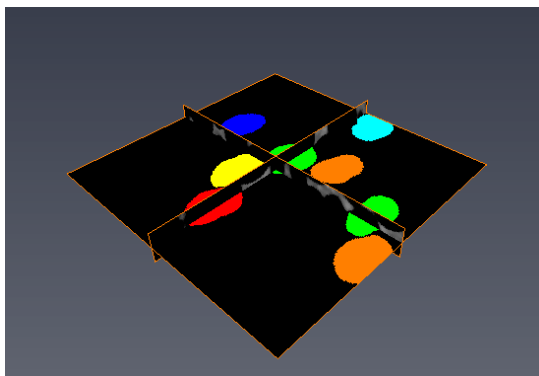

Figure 6.16: Filtering result
- You can verify that fewer objects have been created by connecting the *Ortho Slice* to the new label image `foam.label-filtering`, as shown on Figure 6.16.